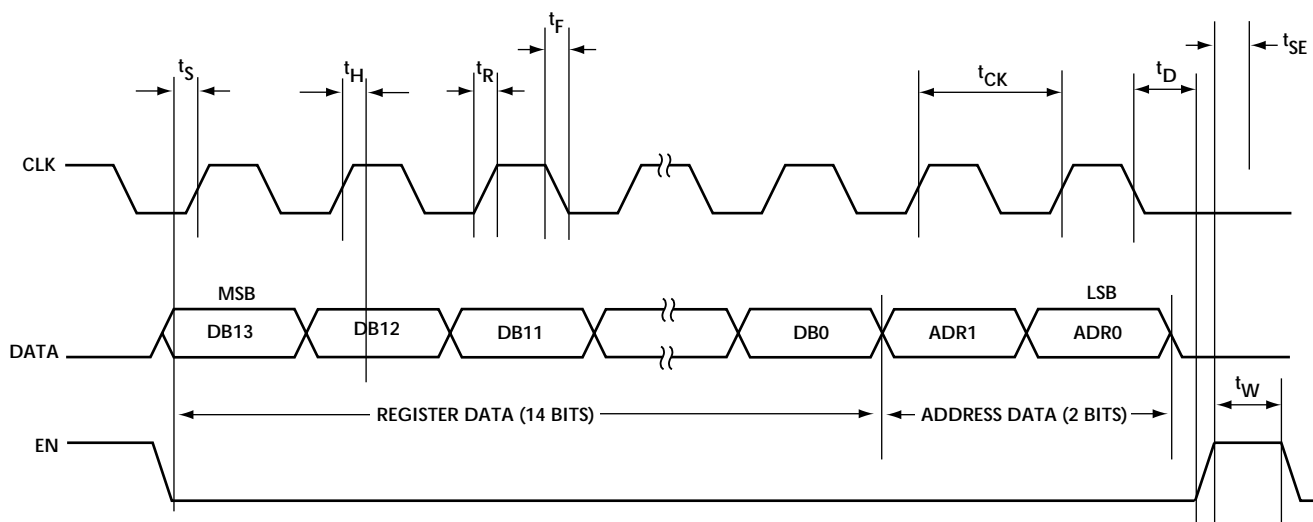

Figure 11. Serial Bus Timing for Address and Data Programming
Data and clock signals are ignored when EN is high. When EN is low data on the DATA pin is clocked into a shift register by rising edges on the CLK pin. The information is latched when EN goes high. This serial interface bus is similar to that commonly found on PLL devices. It can be efficiently programmed by either byte or 16-bit word oriented serial bus hardware. The data latches are implemented in static CMOS and use minimal power when the bus is inactive. Figure 11 and Table 9 provide timing and register programming illustrations.
Each of the three registers are identically configured. Each is divided into a fourteen (14) bit data field and a two (2) bit address field. The sixteen bits are input serially (see Figure 11) with the fourteen data bits, most significant bit (DB13) first followed by the two address bits, most significant bit (ADR1) first. The last sixteen bits clocked into the ML2725 will be loaded into the specified register. Lading less than sixteen bits into any register will cause unpredictable device functionality.